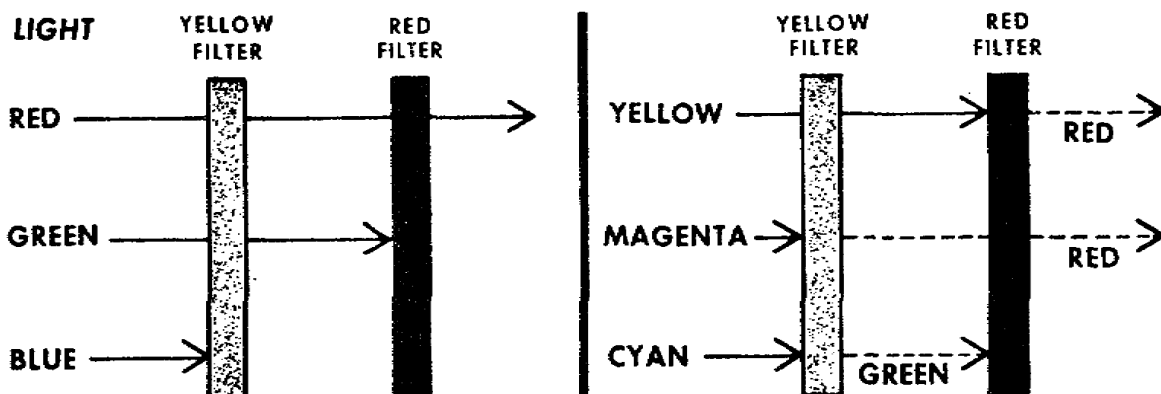

Figure 1-2. Effect of filter on color
e. A filter of a secondary color will pass both the primary colors that make up the secondary color and combine to produce the secondary color. For example, a yellow filter will pass red, green, and yellow but will not pass blue (fig 1-2).